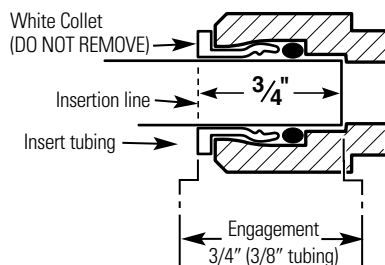

Fig. 9
4. Push the tubing firmly into each fitting on the manifold until the line is flush with the fitting collar. (If the tubing is removed, re-cut the end, measure, mark and re-insert). Tubing must be fully inserted to avoid leaks (Fig. 9). **(To remove tubing, depress and hold white collet; pull tubing out to remove.)**